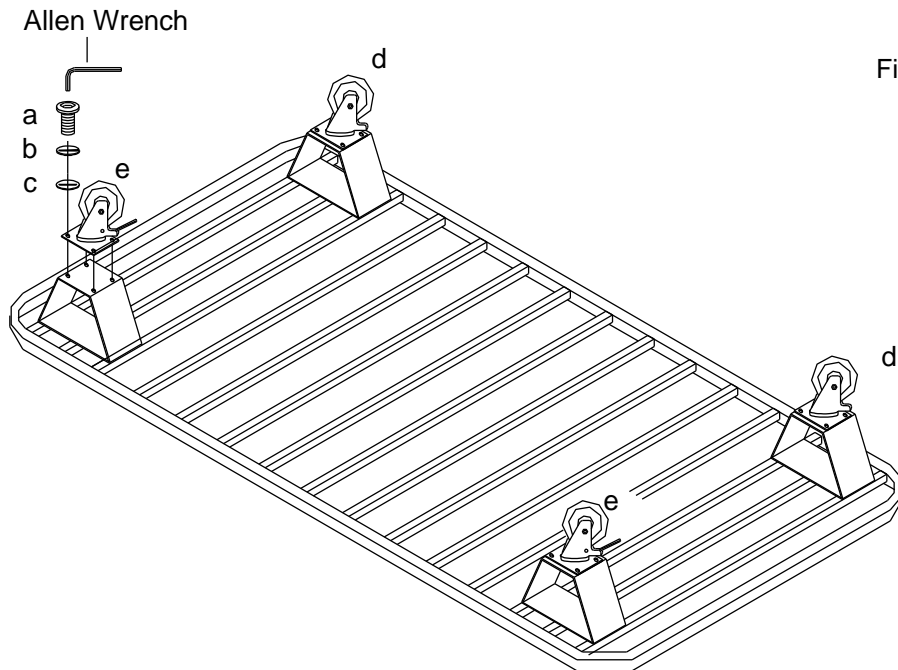

Figure 1
1. Place the bed (A) upside down on a clean, soft surface such as a carpet or rug.
2. Attach the caster (d & e) to the bracket of bed as shown, using flat washer (c), lock washer (b) and bolt (a) . Securely tighten the bolt with Allen wrench. Do not over tighten the bolt. See Figure 1